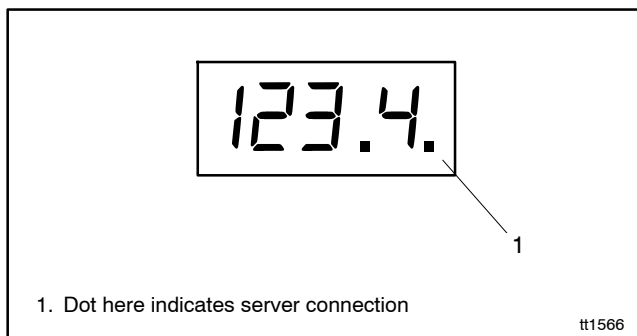

Figure 7 Controller Display with Server Connection
31. Check the controller display to verify connection to the Kohler OnCue server. A dot in the lower right corner of the controller display lights up when the controller is connected to the Kohler server. See Figure 7.